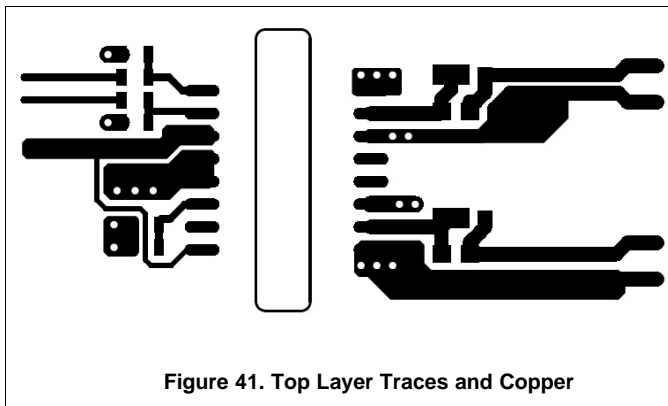
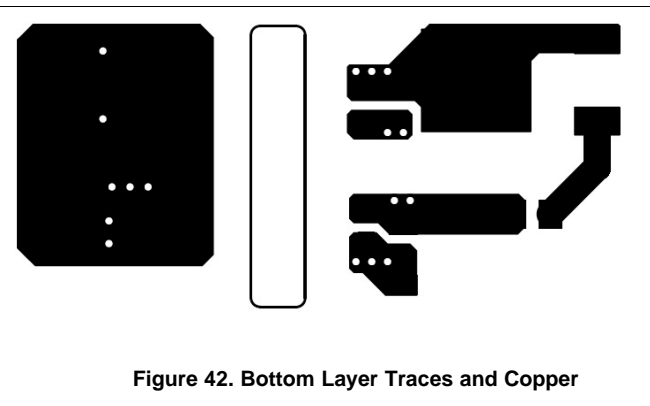

Figure 41. Top Layer Traces and Copper
Figure 42. Bottom Layer Traces and Copper
- Increasing the PCB copper connecting to VDDA, VDDB, VSSA and VSSB pins is recommended (See Figure 41 and Figure 42). However, high voltage PCB considerations mentioned above must be maintained.
Figure 41 and Figure 42 shows top and bottom layer traces and copper.